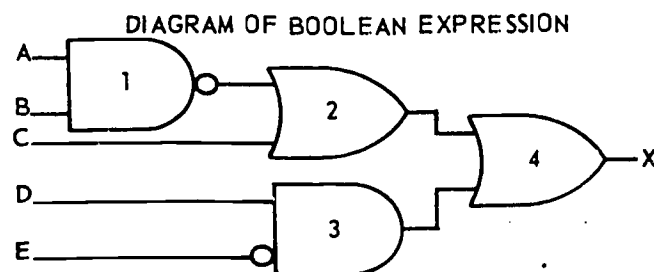

Figure 1-78. Figure for objective 023, exercise 12a.
a. Draw the logic diagram of Boolean expression shown in figure 1-78.